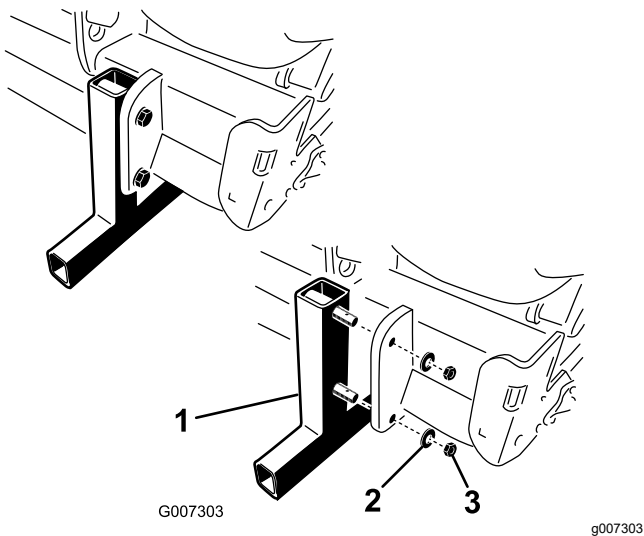

Figure 20
- Remove the nuts and the lock washers securing the storage stands to the machine (Figure 20).
- Insert the lynch pins (included in loose parts) into the stand pins for storage (Figure 20).